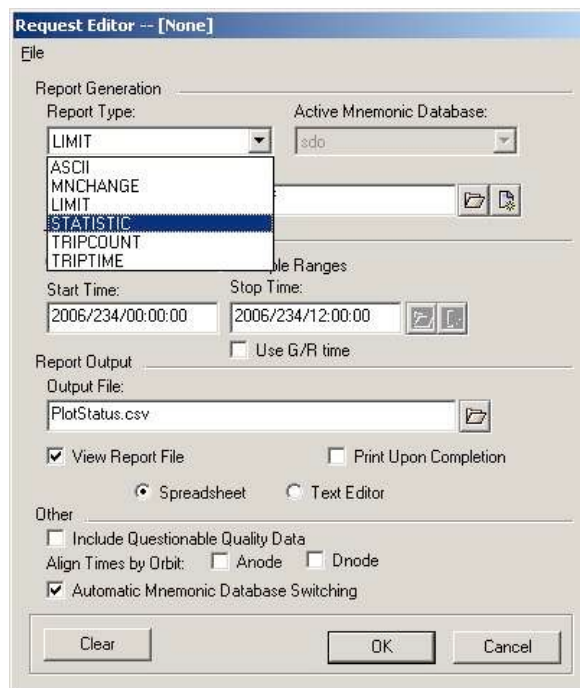

Figure 53: Statistics Report Request
- Select Statistics (STATISTICS) report from the ITPS Request Editor window (see *Figure 53*).